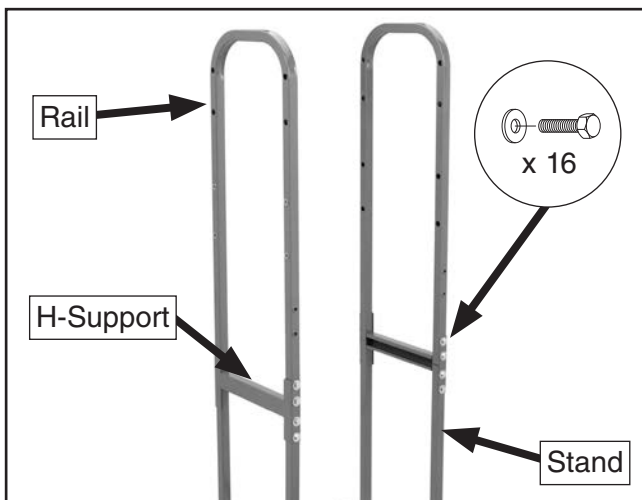

Figure 14. Installing stand rails.
3. Secure the H-supports and upper stand rails to the stand, as shown in **Figure 14**, using (16) $\frac{5}{16}$ "-18 x $\frac{3}{4}$ " hex bolts and (16) $\frac{5}{16}$ " flat washers.